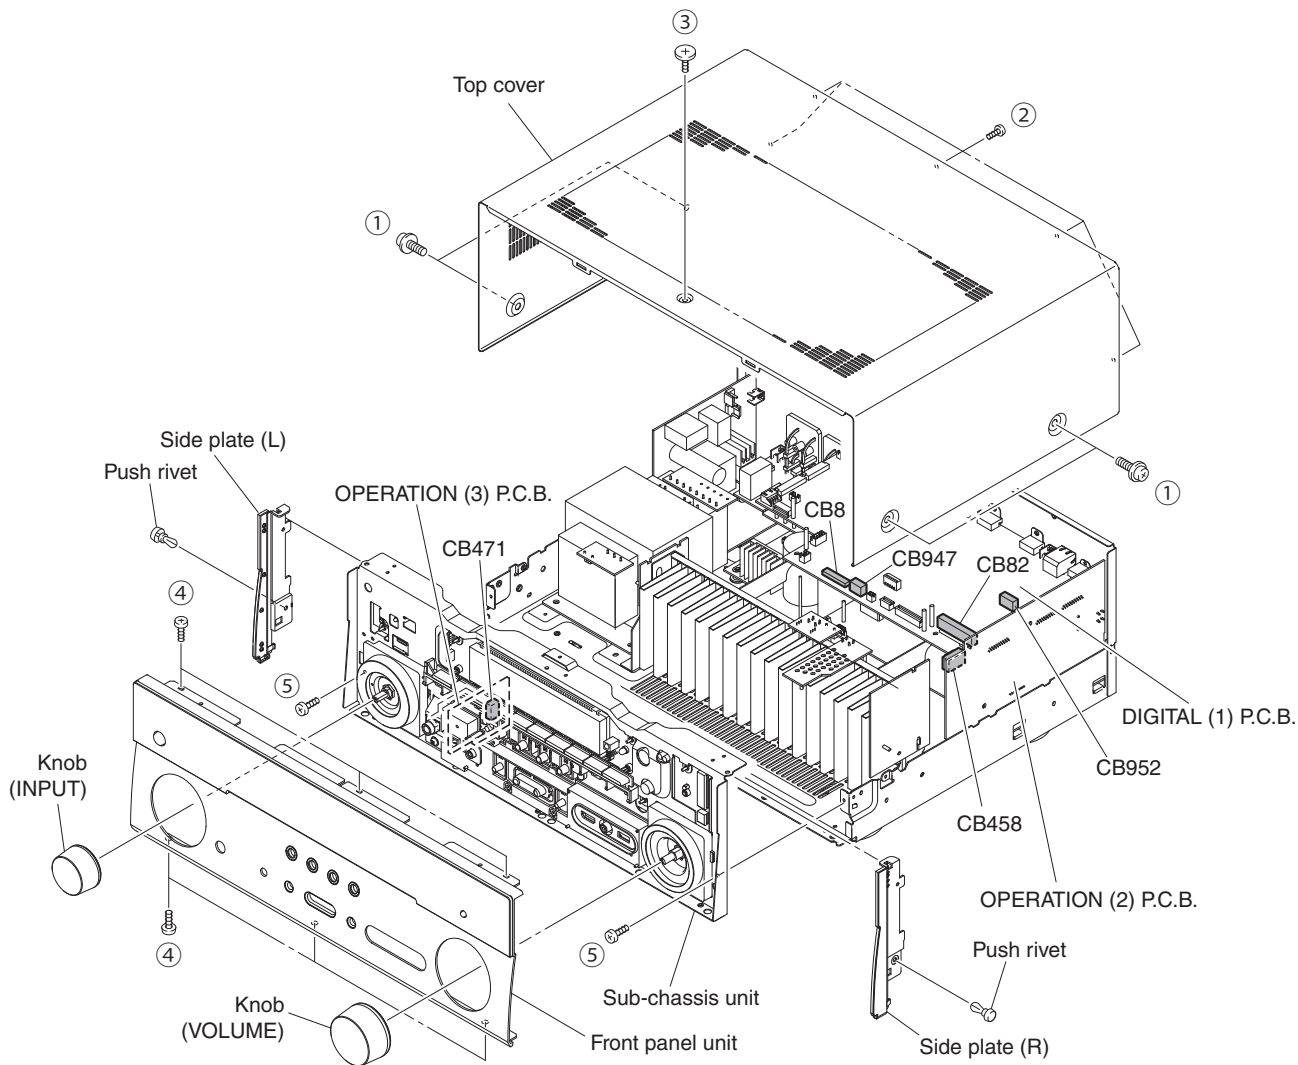

Fig. 1
- a. Remove 4 screws (①), 5 screws (②) and screw (③). (Fig. 1)
- b. Lift the rear of the top cover to remove it. (Fig. 1)
- a. Remove knob (INPUT) and knob (VOLUME). (Fig. 1)
- b. Remove 6 screws (④) and then remove the front panel unit. (Fig. 1)
- c. Remove 2 push rivets and then remove the side plate (L) and side plate (R). (Fig. 1)
- d. Remove CB8, CB82, CB458, CB471, CB947 and CB952. (Fig. 1)
- e. Remove 2 screws (⑤) and then remove the sub-chassis unit. (Fig. 1)